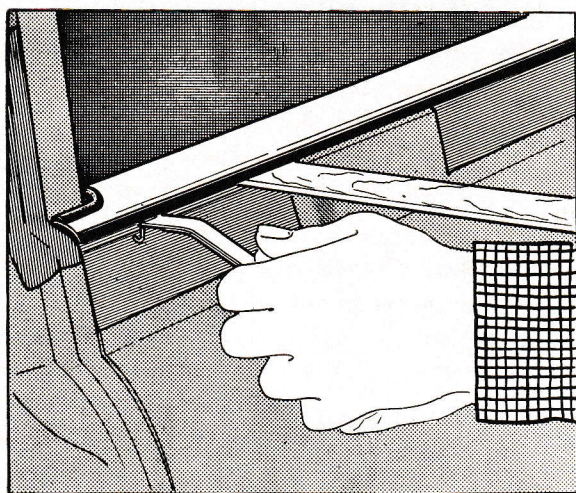

Fig. 37. Removing spring clip.
2. Lift the strip with the piece of wood so that the spring clip can be unhooked. See Fig. 37. Tool SVO 2297 can be used for this.